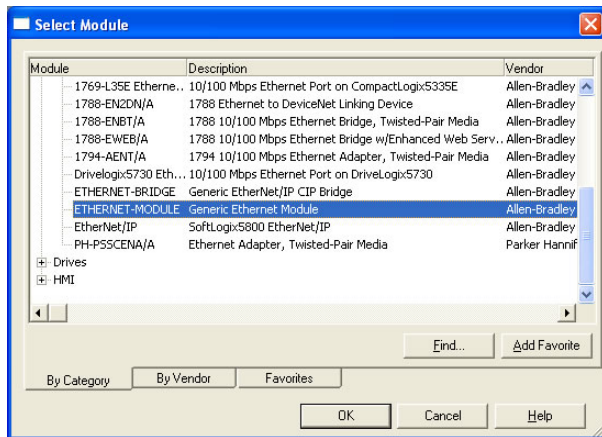

Figure 82: Adding a New Generic Ethernet Module
- 3) Choose “Generic Ethernet Module” in the Select Module dialog box and click “OK”. Refer to Figure 82.